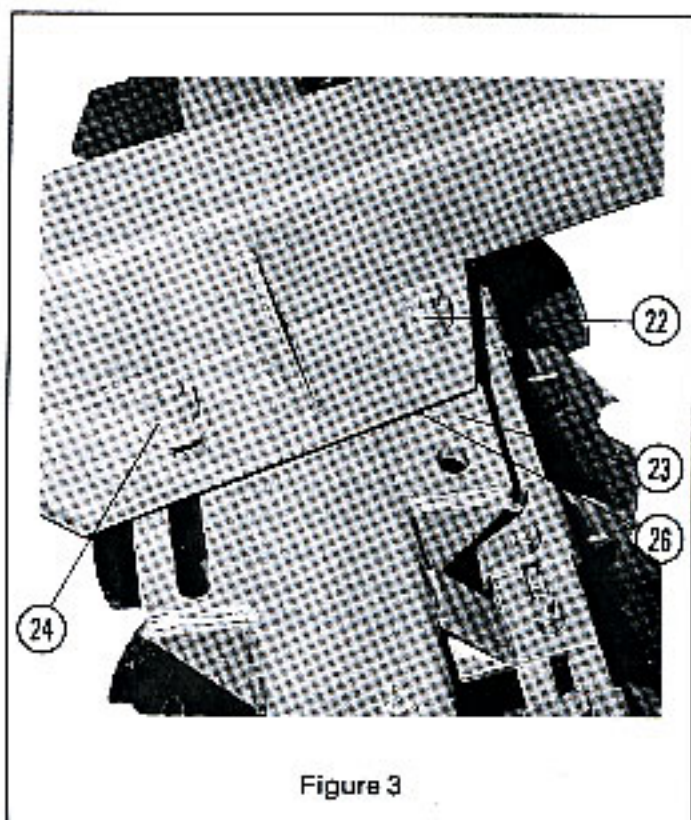

Figure 3
- 3. Offsetting Rear Gang Bar:** (Refer to Figure 3) for ordinary conditions bolt(22) should be in the centre of lateral plate(23). When using disc as a double wide unit the rear gang bar is adjusted to maximum width to fill furrow. Remove two bolts(22), loosen bolt where slots are(24), adjust laterally then retighten all bolts.
- B. Side to Side Levelling:** (Refer to Figure 3) In general, adequate levelling from side to side may be obtained by placing leveling washers(26) between angling plate on frame and gang bar. Leveling washers are always used on narrow side(N) of disc only.